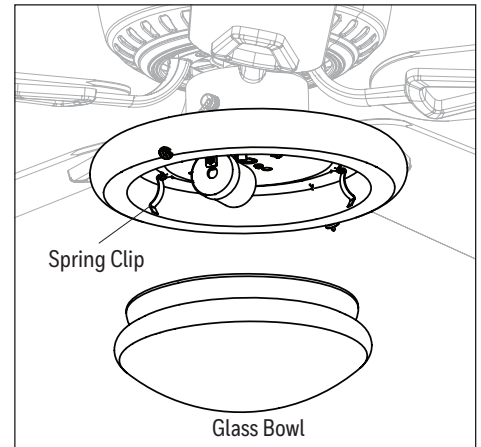

Figure 4.9
9. Attach the glass bowl by inserting the three spring clips inside the neck of the glass bowl and firmly push the glass bowl up until it is secured to the light kit. **Note:** The glass bowl will snap into place once installed properly (Figure 4.9).